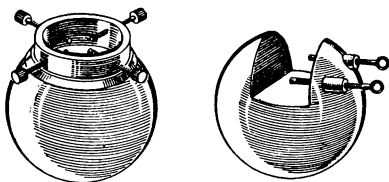

Fig. 14—Two types of bullet for holding work.
*Bullet* : This is another engraver's appliance for holding small jobs and is in the shape of a ball with the top section cut away, with two screws running through to hold the work in position. Two versions of the bullet are shown in Fig. 14, which is self-explanatory.